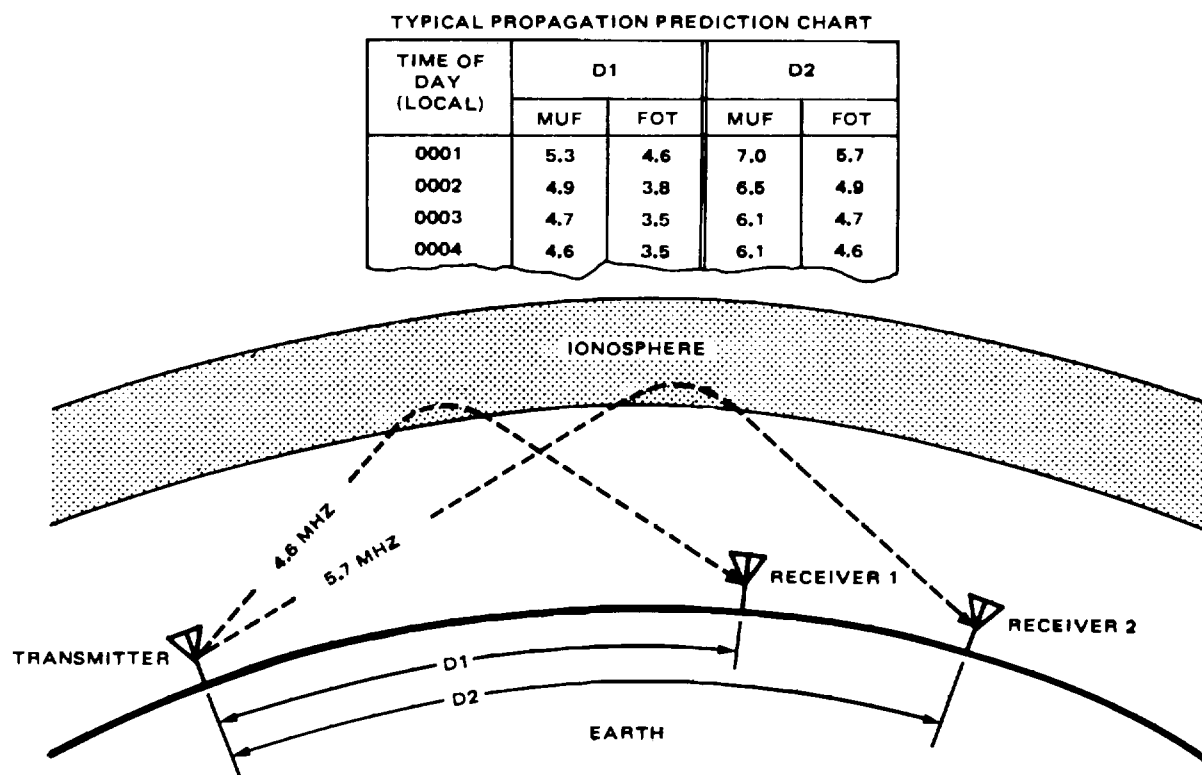

Figure A2-3. Relative Skip Distance for Two Different Frequencies
**A2-9. MAXIMUM USABLE FREQUENCY.** At any given time for a predetermined path length (skip distance) there will exist a 'Maximum Usable Frequency,' MUF. This MUF is the highest frequency, radio wave that will be reflected back to earth in a specified geographical region for that path length. The MUF is a predictable number and is available in the form of propagation prediction charts. A sample of a propagation prediction chart is shown in figure A2-3. The MUF is highest at noon or early afternoon and drops to its lowest in the early morning hours. The MUF is lower on short paths and higher on long paths.